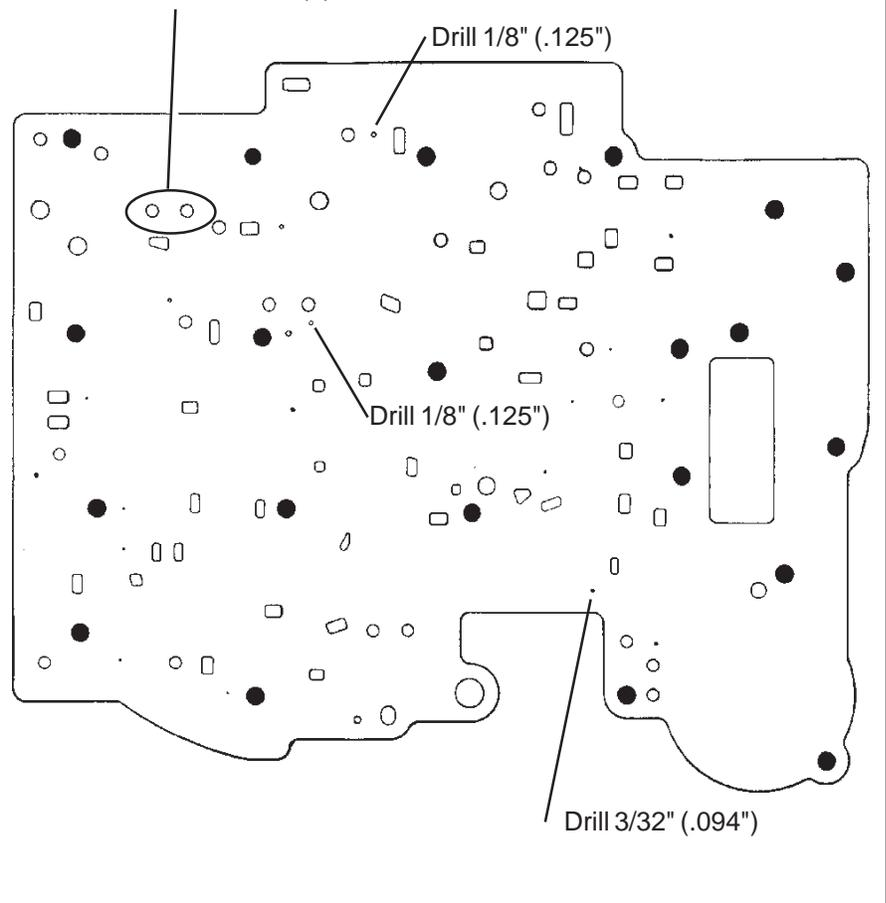

Figure 4
STEP 6. Using the supplied drills, enlarge the holes in your separator plate as indicated in **Fig. 4**. Carefully deburr the holes after drilling.
STEP 11. Heavy Duty and Street; Check ball placement (See Fig. 4, 8, 8a, 8b and 8c.) Place check balls in the valve body, auxiliary valve body and case in the positions shown. Use a dab of grease or petroleum jelly to hold check balls in position. Beginning mid 1984 model year TH-700's have a check ball which is larger than the others in the valve body position 'A'. If your transmission is equipped with this check ball replace it in position 'A'. If your transmission does not have this check ball then place **nothing** in position 'A', pre mid 1984 transmissions were not equipped with a check ball in this position.